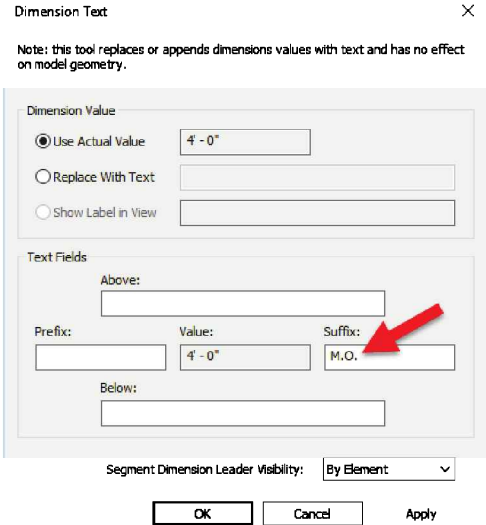

FIGURE 10-4.2 Editing dimension text
6. Type **M.O.** in the Suffix field (Figure 10-4.2).